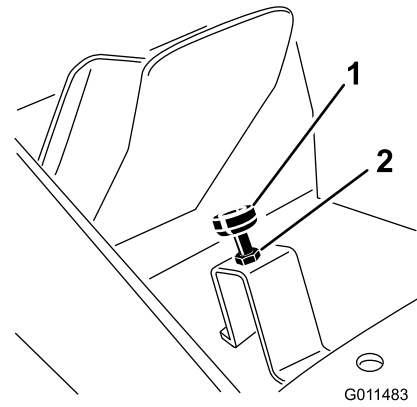

Figure 73
3. Release the traction pedal and adjust the stop another half to full turn so that the pedal contacts the stop just before full stroke is attained, then, tighten the jam nuts (Figure 73).
2. Depress the traction pedal until it is at full stroke (Figure 73). The jam nuts may have to be loosened and the stop lowered to attain full stroke.